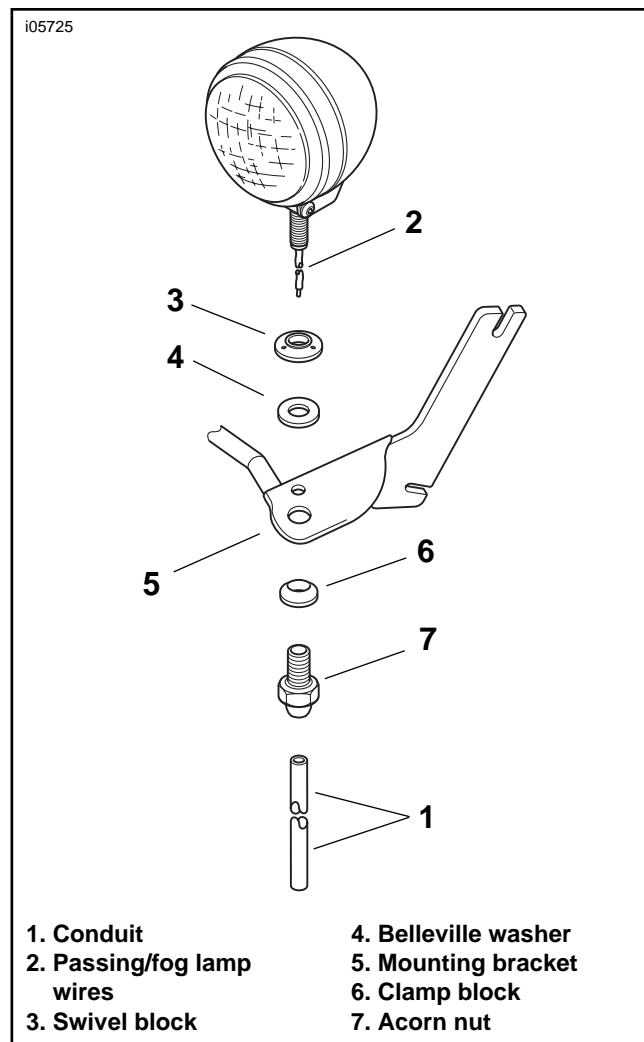

Figure 3. Install the Auxiliary Lamps
24. Align the passing/fog lamps as described in the alignment procedure in the applicable Service Manual. (See Figure 3.) Tighten acorn nuts (7) to 15-18 ft-lbs (20-24 Nm).